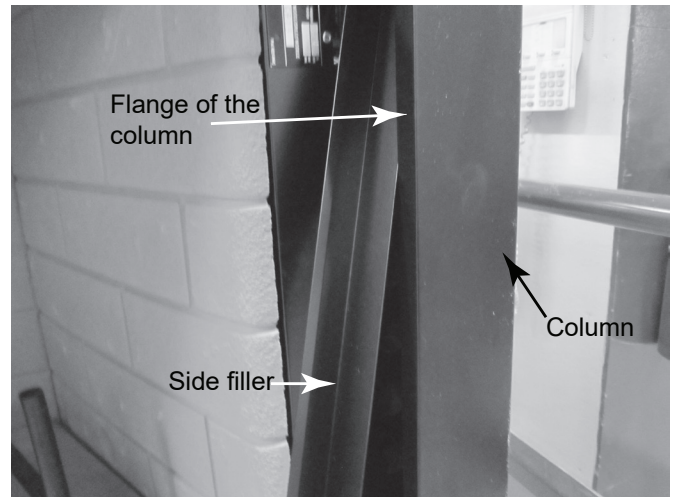

Figure 5
5. Slip side fillers in on both sides so that the long straight flange is behind columns. See Figure 5 and Figure 8.